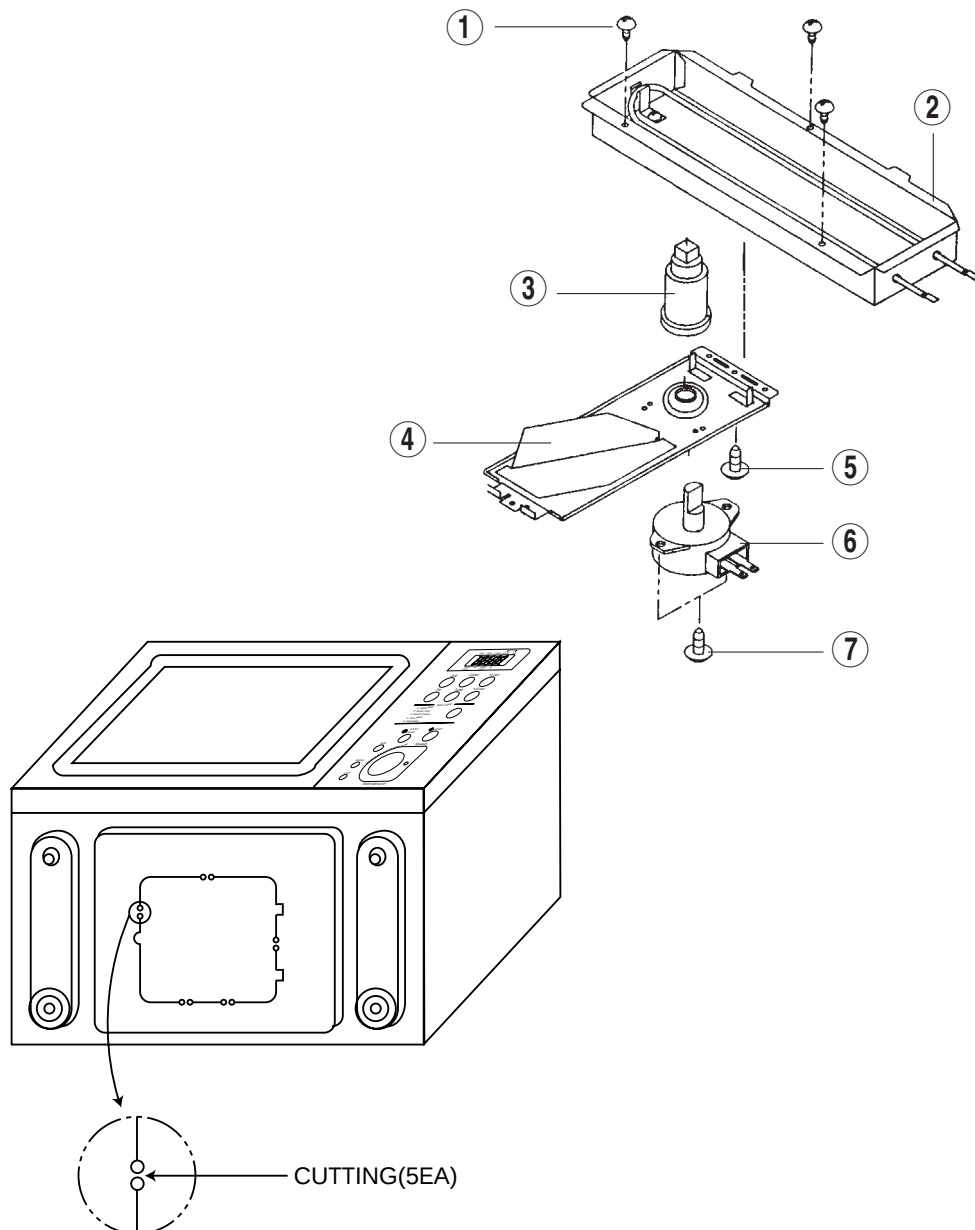

Fig. 9
9. To remove tray motor and under Heater. (Refer to Fig. 9)
- 1) Cut the tray motor cover parts from the base plate (Refer to Fig. 9).
- 2) Remove two screws ⑦ which secure the tray motor ⑥ and supporter to tray motor bracket ④ .
- 3) Remove three screws ① and under heater assembly ② in cavity.